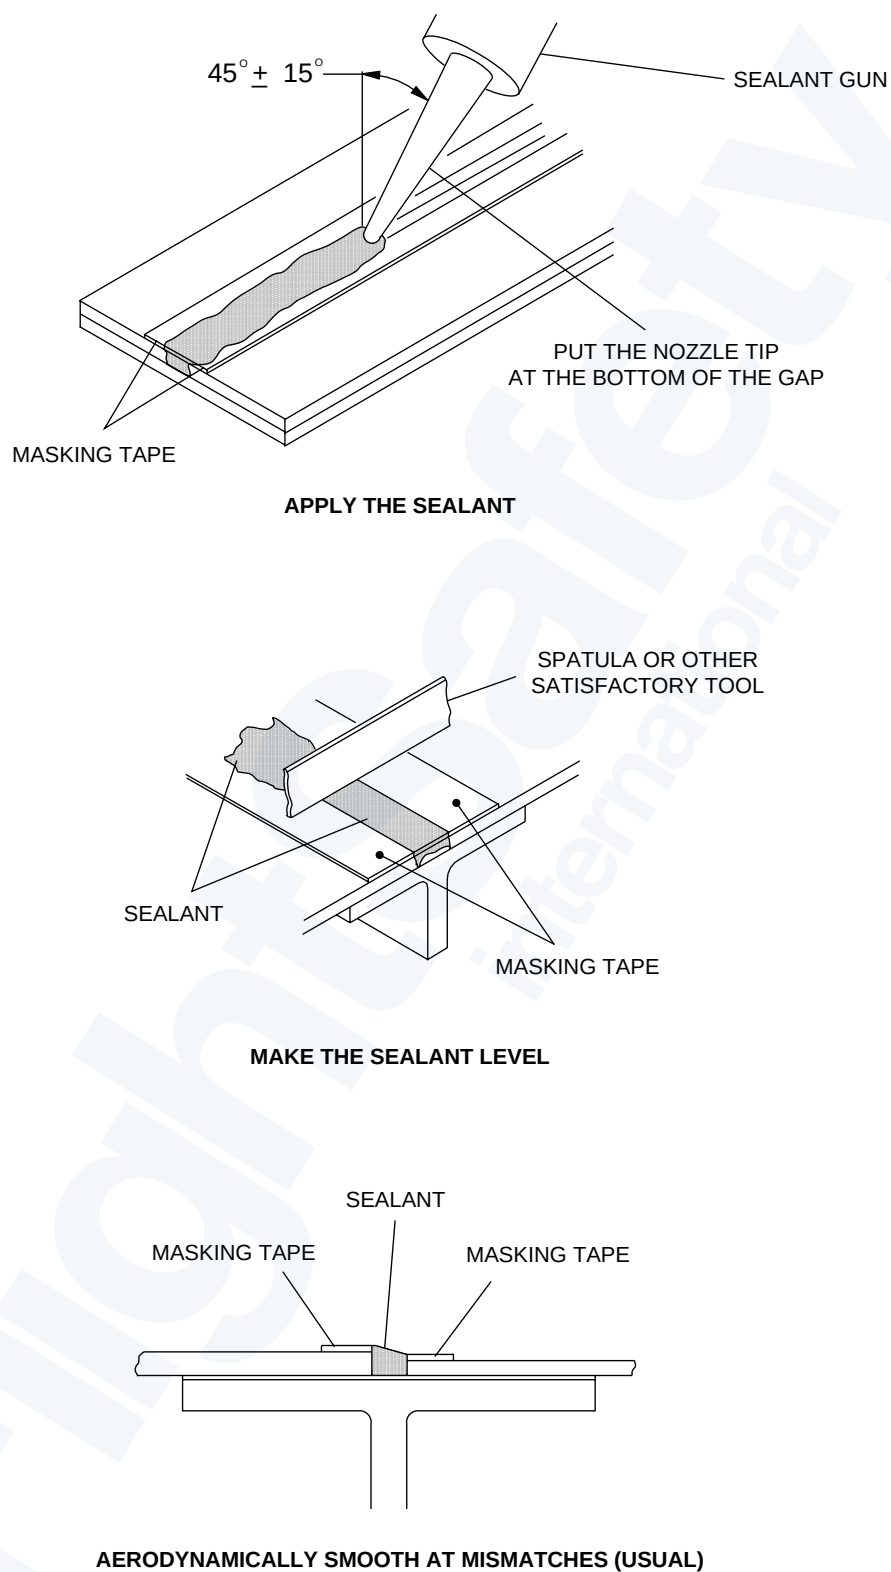

Figure 51-5. Sealing for Aerodynamic Smoothness
- Figure 51-5. Sealing for Aerodynamic Smoothness.